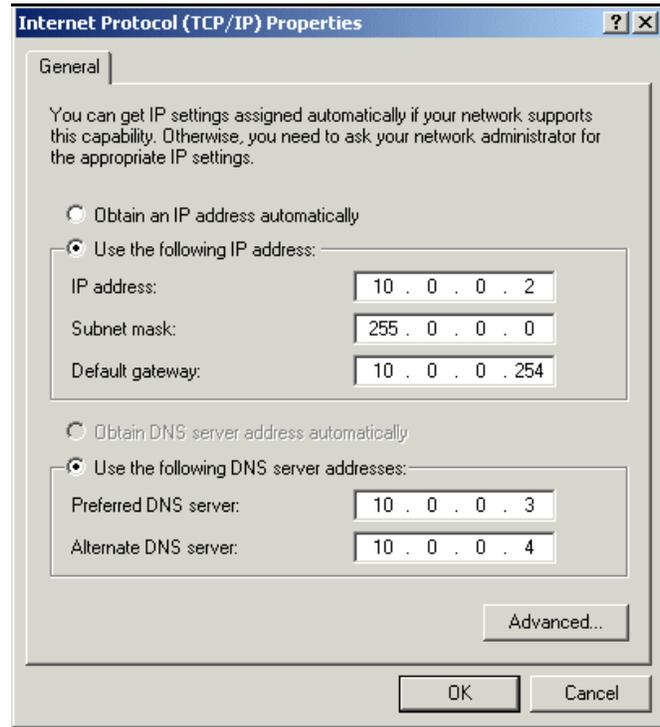

Fig. 13. TCP/IP Settings Page.
3. Double click **“Internet Protocol (TCP/IP)”** to open the TCP/IP Settings. A popup as shown in Fig. 13 should appear.
As illustrated in Fig. 13 on page 12, provide the following information in the respective fields: